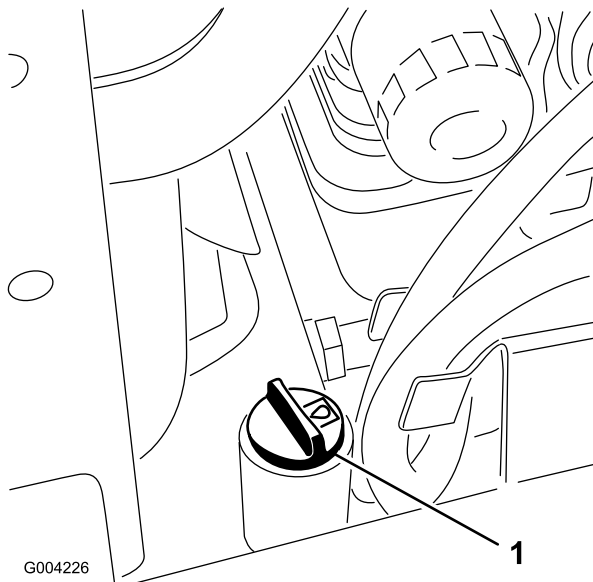

Figure 18
5. Clean the area around the filler neck of the hydraulic tank (Figure 18).